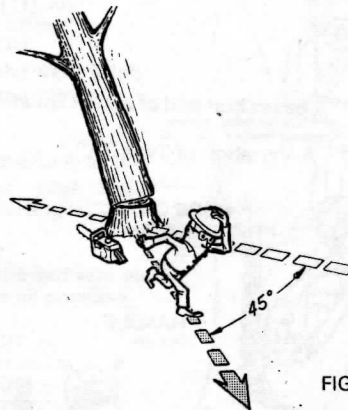

FIGURE 29
A retreat path should be planned and cleared as necessary before cuts are started. The retreat path should extend back and diagonally to the rear of the expected line of fall as illustrated in (Figure 29).
4. Complete felling cut. Do not cut through to the notch cut. When tree starts to topple, place the saw along the path of the selected retreat path where it will not get hit and diagonal to the line of tree fall as shown in (Figure 29).